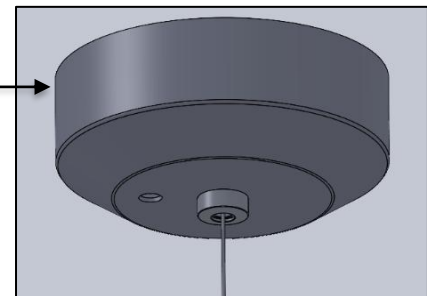

FIG. 8 - CANOPY SUBASSEMBLY
- a. CANOPY SUBASSEMBLY WITH AIRCRAFT CABLE (as shown in FIG. 8)